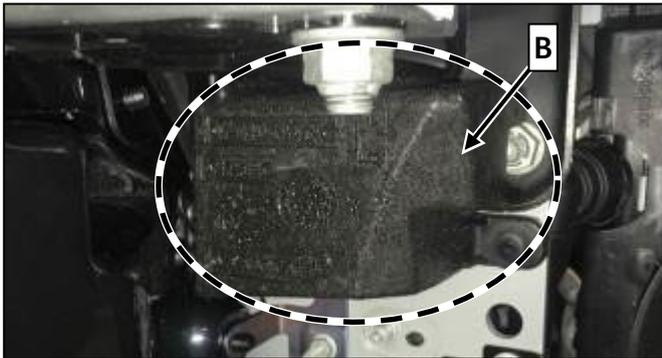

Figure 2
8. Remove left and right impact foam pieces (B, Figure 2).